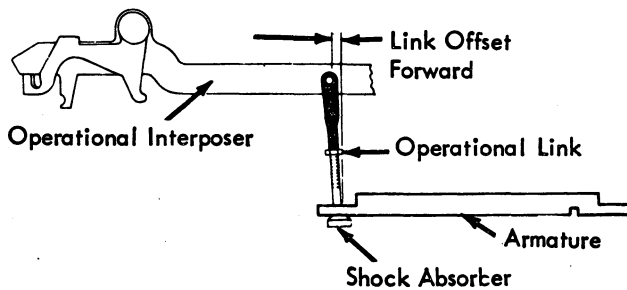

FIGURE 171. Front To Rear
- b. Front to Rear - so that the armature link holes are slightly to the rear of the interposer link holes (Fig. 171).